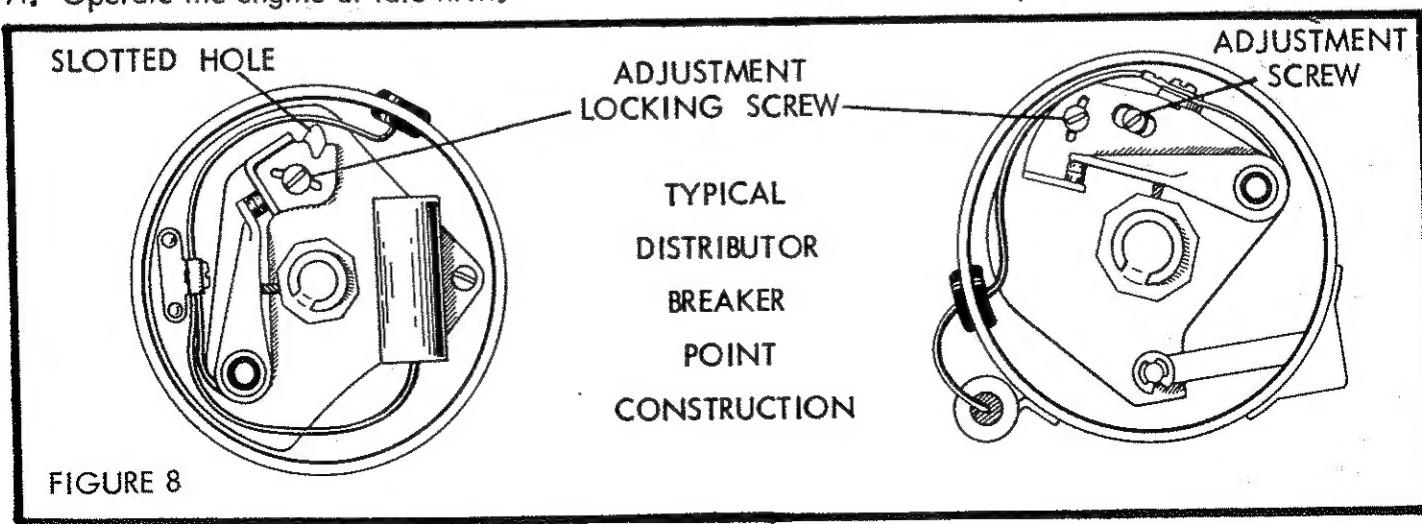

FIGURE 8
5. To adjust dwell, loosen the locking screw(s) slightly and adjust the point gap according to the procedure outlined in the vehicle's service manual. There are a number of mechanical methods for adjusting breaker points. Two typical methods are shown in FIGURE 8. Tighten locking screw, and recheck dwell while cranking engine. Repeat procedure if necessary.